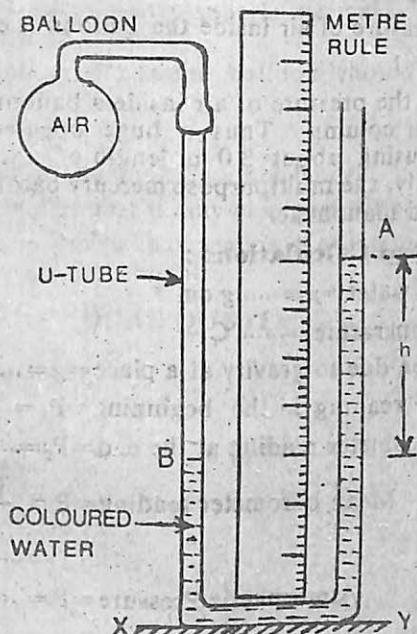

Fig. 26.1 (Water Manometer)
The pressure of air inside the balloon is more than the atmospheric pressure by an amount equal to $h\rho g$ where h is the difference in levels of water in the two limbs of the water manometer (Fig. 26.1); ρ is the density of water and g is acceleration due to gravity at a place.
1. Blow a rubber balloon. Connect it to one of the limbs of the manometer containing coloured water as shown in Fig. 26.1.